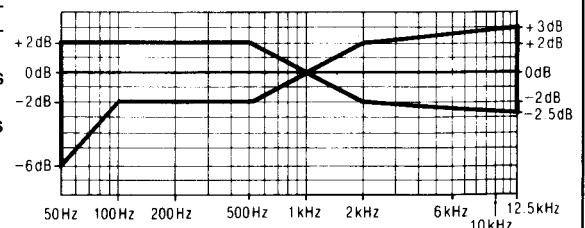
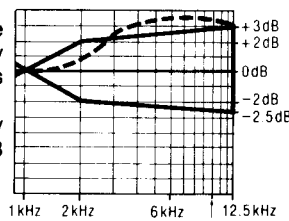
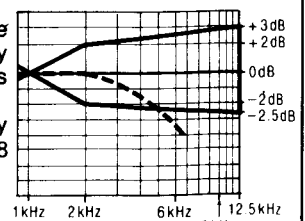

Fig. 11
Fig. 12
Fig. 13
6. Playback the signals recorded in step 6, and check if the frequency response curve is within the limits shown in the overall frequency response chart for normal tapes (fig. 11).
When the curve exceeds the overall specified frequency response chart (fig. 11) as shown in fig. 12.
When the curve falls below the overall specified frequency response chart (fig. 11) as shown in fig. 13.
- 2) Repeat steps 5 and 6 for confirmation (Proceed to steps 7, 8 and 9 if the curve is now within the charted specifications as shown fig. 11.)
- 3) If the curve still exceeds the specifications (fig. 11), increase bias current further and repeat steps 5 and 6.
- 3) If the curve still falls below the charted specifications (fig. 11), reduce bias current further and repeat steps 5 and 6.